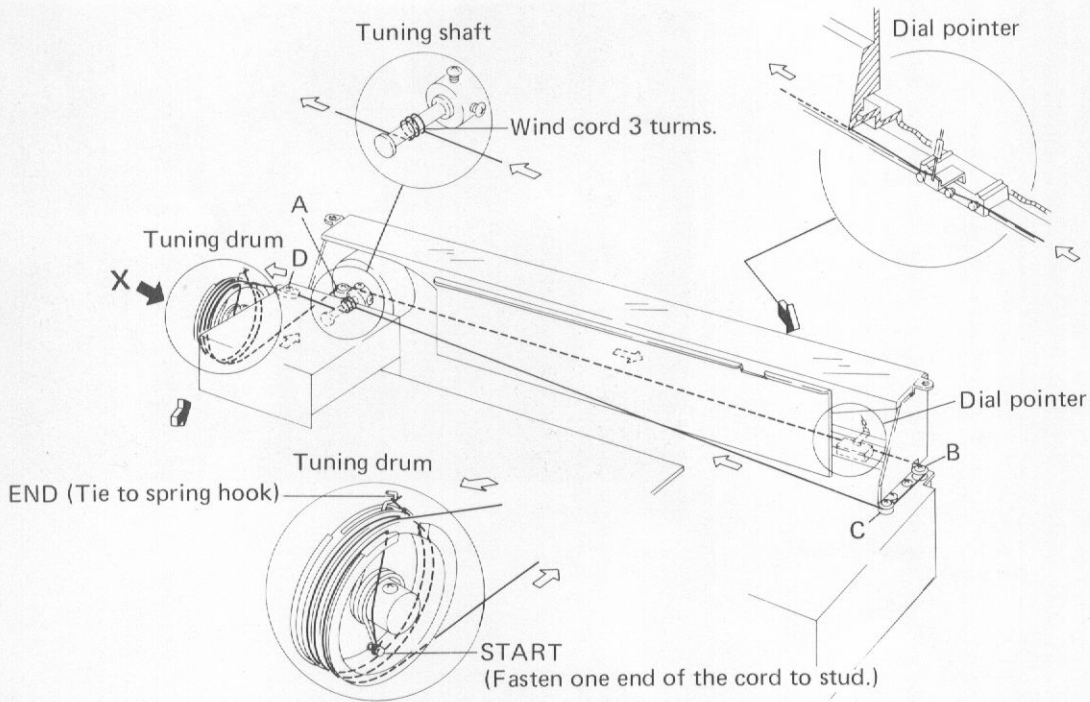

Fig. 27
3. Turn tuning drum fully clockwise (as viewed from X direction in (Fig. 27).